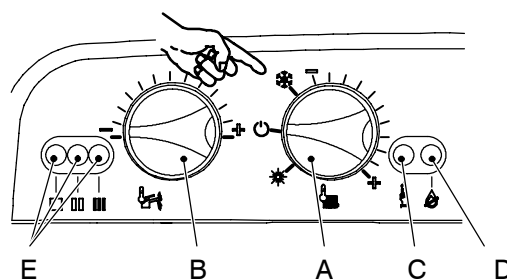

Fig. 37
- 3 Position the function selector A as in Fig. 37 and disconnect the C.h. temperature probe.
- 4 Keep pressed the reset button C for about 10 seconds (Fig. 37) until the lock-out signal lamp D blinks.